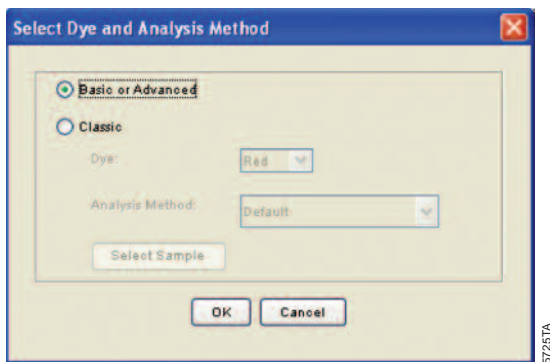

Figure 3. The Select Dye and Analysis Method window.
4. Select “Basic or Advanced” (Figure 3). The type of analysis method selected must match the type of analysis method created earlier. Select “OK”.